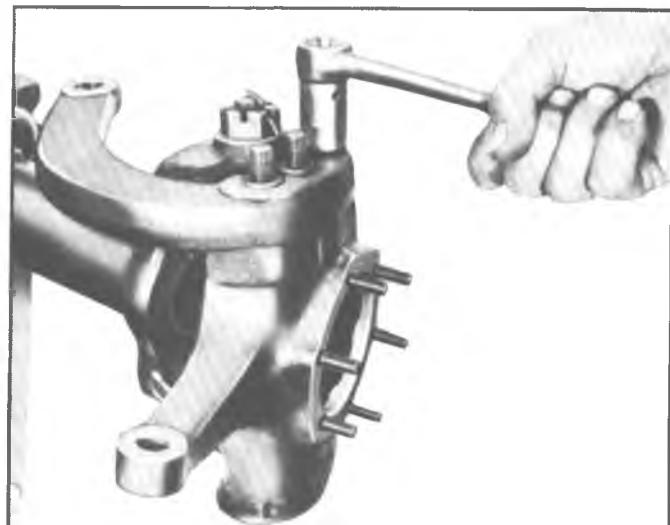

Fig. 61—Removing Steering Arm Nuts
- CAUTION:** If it is necessary to remove the steering arm, discard the three self-locking nuts (Fig. 61) and replace with new nuts at assembly.